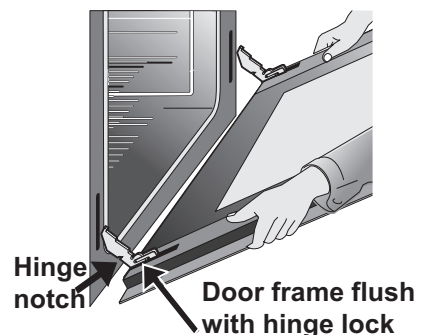

Figure 41: Replacement and location of hinge arm and roller pin
4. Pull the bottom of the door toward you while rotating the top of the door toward the appliance to completely disengage the hinge levers (Figure 41).
1. Firmly grasp both sides of oven door along the door sides. Do not use the oven door handle (Figure 41).
2. Hold the oven door at the same angle as the removal position. Carefully insert the hinge levers into the oven frame until you feel the hinge levers are seated into the hinge notches. The hinge arms must be fully seated into the hinge notches before the oven door can be fully opened. (Figure 41).